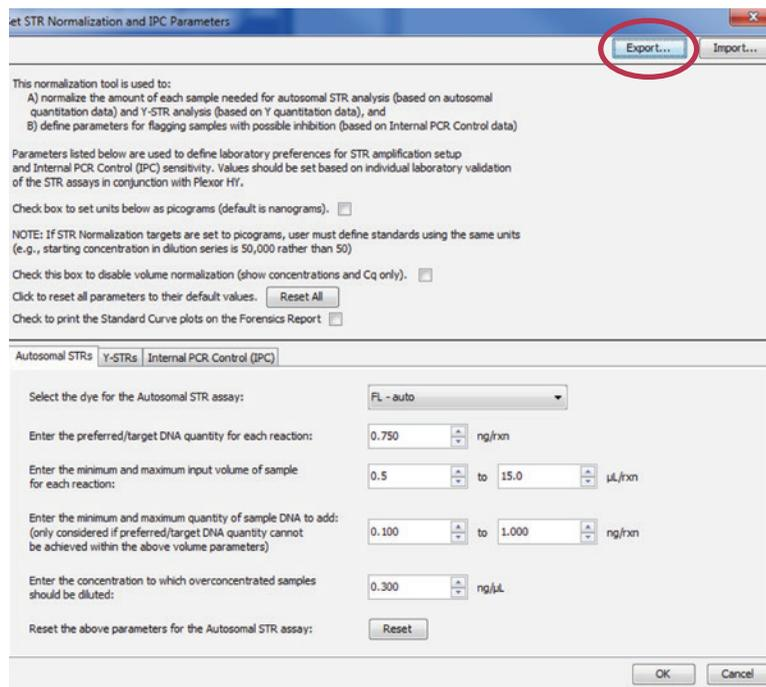

Figure 40. The Set STR Normalization and IPC Parameters window.
2. In the dialog box that appears (Set STR Normalization and IPC Parameters; Figure 40), be sure that the box next to “disable volume normalization (show concentrations and C_q only)” is not checked. If this box is checked, STR normalization data will not be displayed in the subsequent forensic report. See Section 6.F.
4. Select the Autosomal STRs tab (Figure 40).
STR Dilution Status (Autosomal or Y): An indication of whether a sample contains DNA of adequate concentration to use directly in STR analysis or whether dilution is necessary. The status terms listed below are established by the values indicated in the Set STR Normalization and IPC Parameters window (Figure 40). Auto STR columns use autosomal quantification results and are intended to guide setup of autosomal STR reactions. Y-STR columns use Y-chromosomal quantification results and are intended to guide setup of Y-STR reactions.